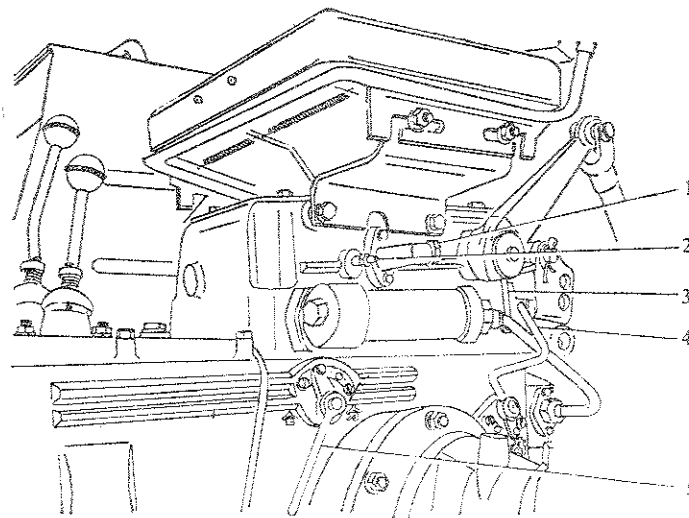

Fig. 4-3 Hydraulic power take-off and part of the control mechanism
F. Application of hydraulic power take-off (see Fig. 4-3)